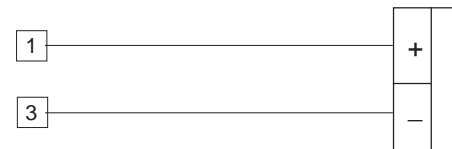

Fig. 5.2
- Connect the instrument to the calibrator as shown in Fig. 5.2.
- a) Set 20,000 mA on the calibrator (see Fig. 5.2).